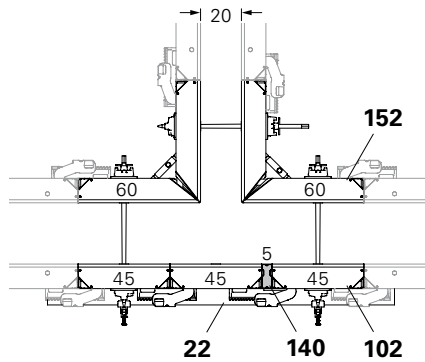

Fig. B5.03
- Wall thickness 20: Fig. B5.03